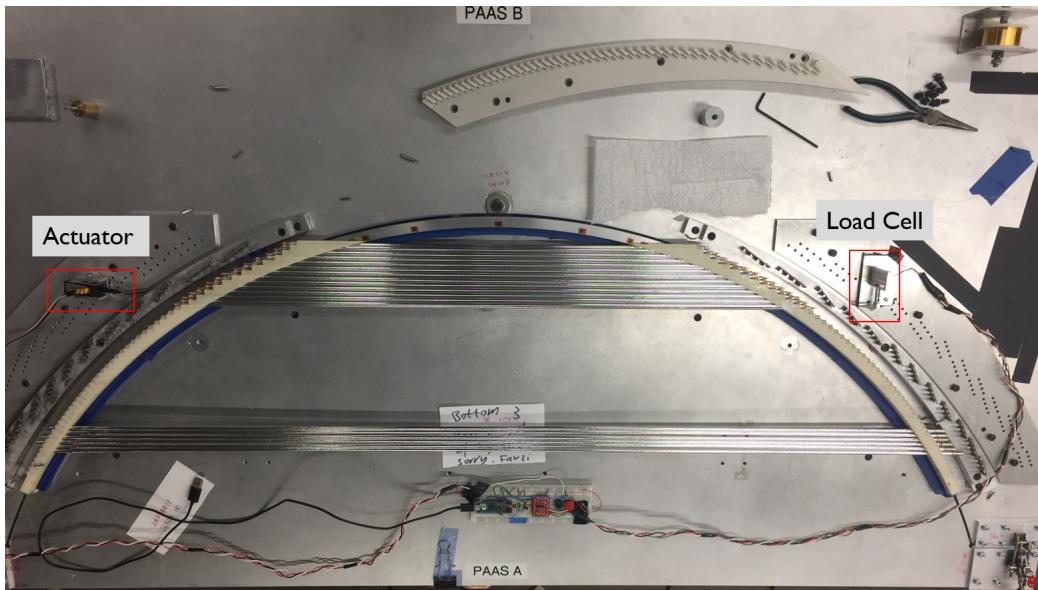

Figure 3: Setup of the first panel test for ergonomics of tensioning.
- **First Panel Test:** Tested tensioning a thread with the test panel using the existing pulley plate holes (setup shown in figure 3).